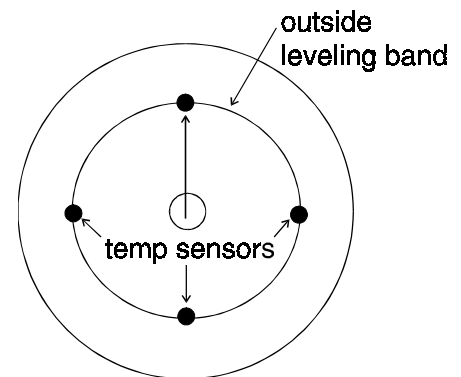

Figure 4: Top view of the Top Dry Grain Chamber.
3. Install the four temperature sensors in the locations shown in Figure 4.